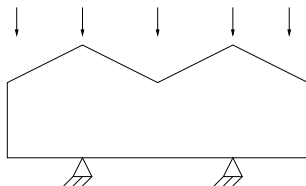

Figure 1: Homework 2: Geometry, boundaries, and surface forces.
2. In the second homework task, we only change the geometry and boundary conditions as displayed in Figure 1 and keep the PDE and the cost functional. Test by yourself where, and how many, holes are required in the initial configuration in order to achieve sufficient decrease in the cost functional.